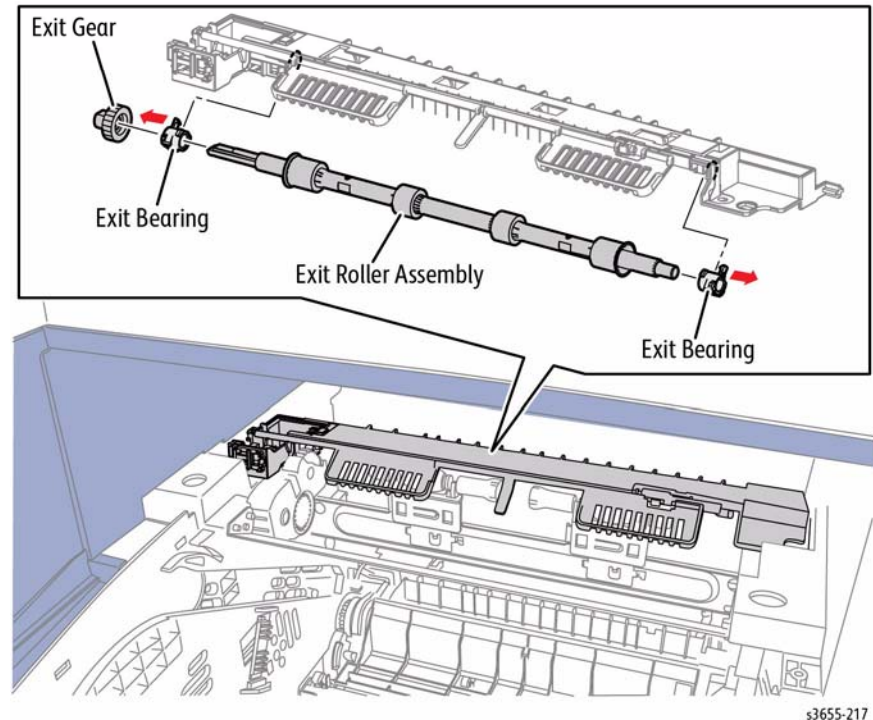

Figure 1 Remove the Exit Roller
2. Refer to Figure 1 to locate and remove the exit gear from the Exit Roller shaft, then release the shaft bearings to remove the Exit Roller from the Exit Chute Assembly.